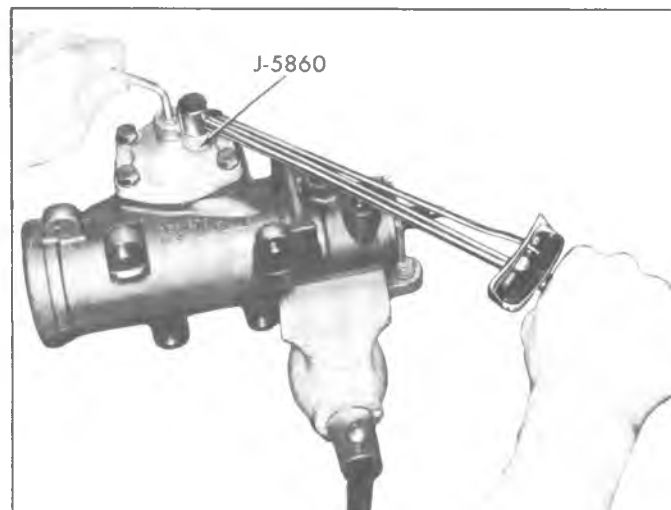

Fig. 62—Torquing Over-Center Locknut
- e. While holding the adjusting screw, tighten the lock-nut to 35 ft. lbs. using Adapter J-5860 (fig. 62) and recheck the adjustment.